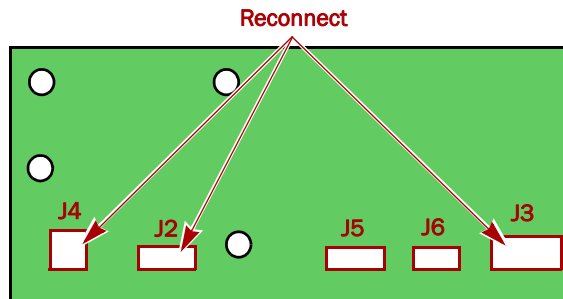

Figure 2-6: Reattach the J2, J3, and J4 Drive PWA Connectors
- b. On the Drive PWA, reattach the **J2, J3, and J4** cables (Figure 2-6).